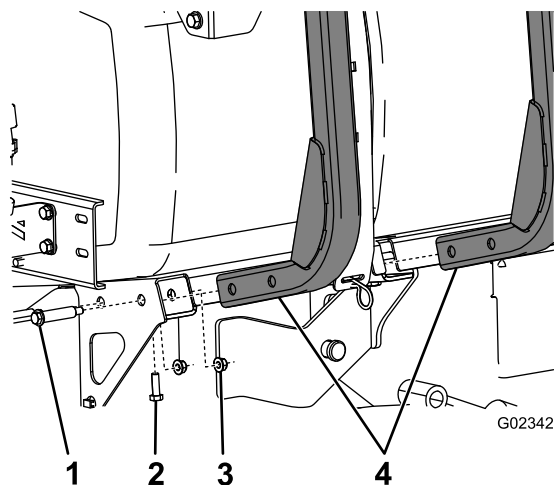

Figure 2
2. Secure the underside of the hose-reel frames to the machine using 2 bolts (5/16 inch) and 2 jam nuts (Figure 2).
1. Mount the 2 hose-reel frames to the side of the machine using 4 shoulder bolts and 4 flange nuts (5/16 inch) as shown in Figure 2.